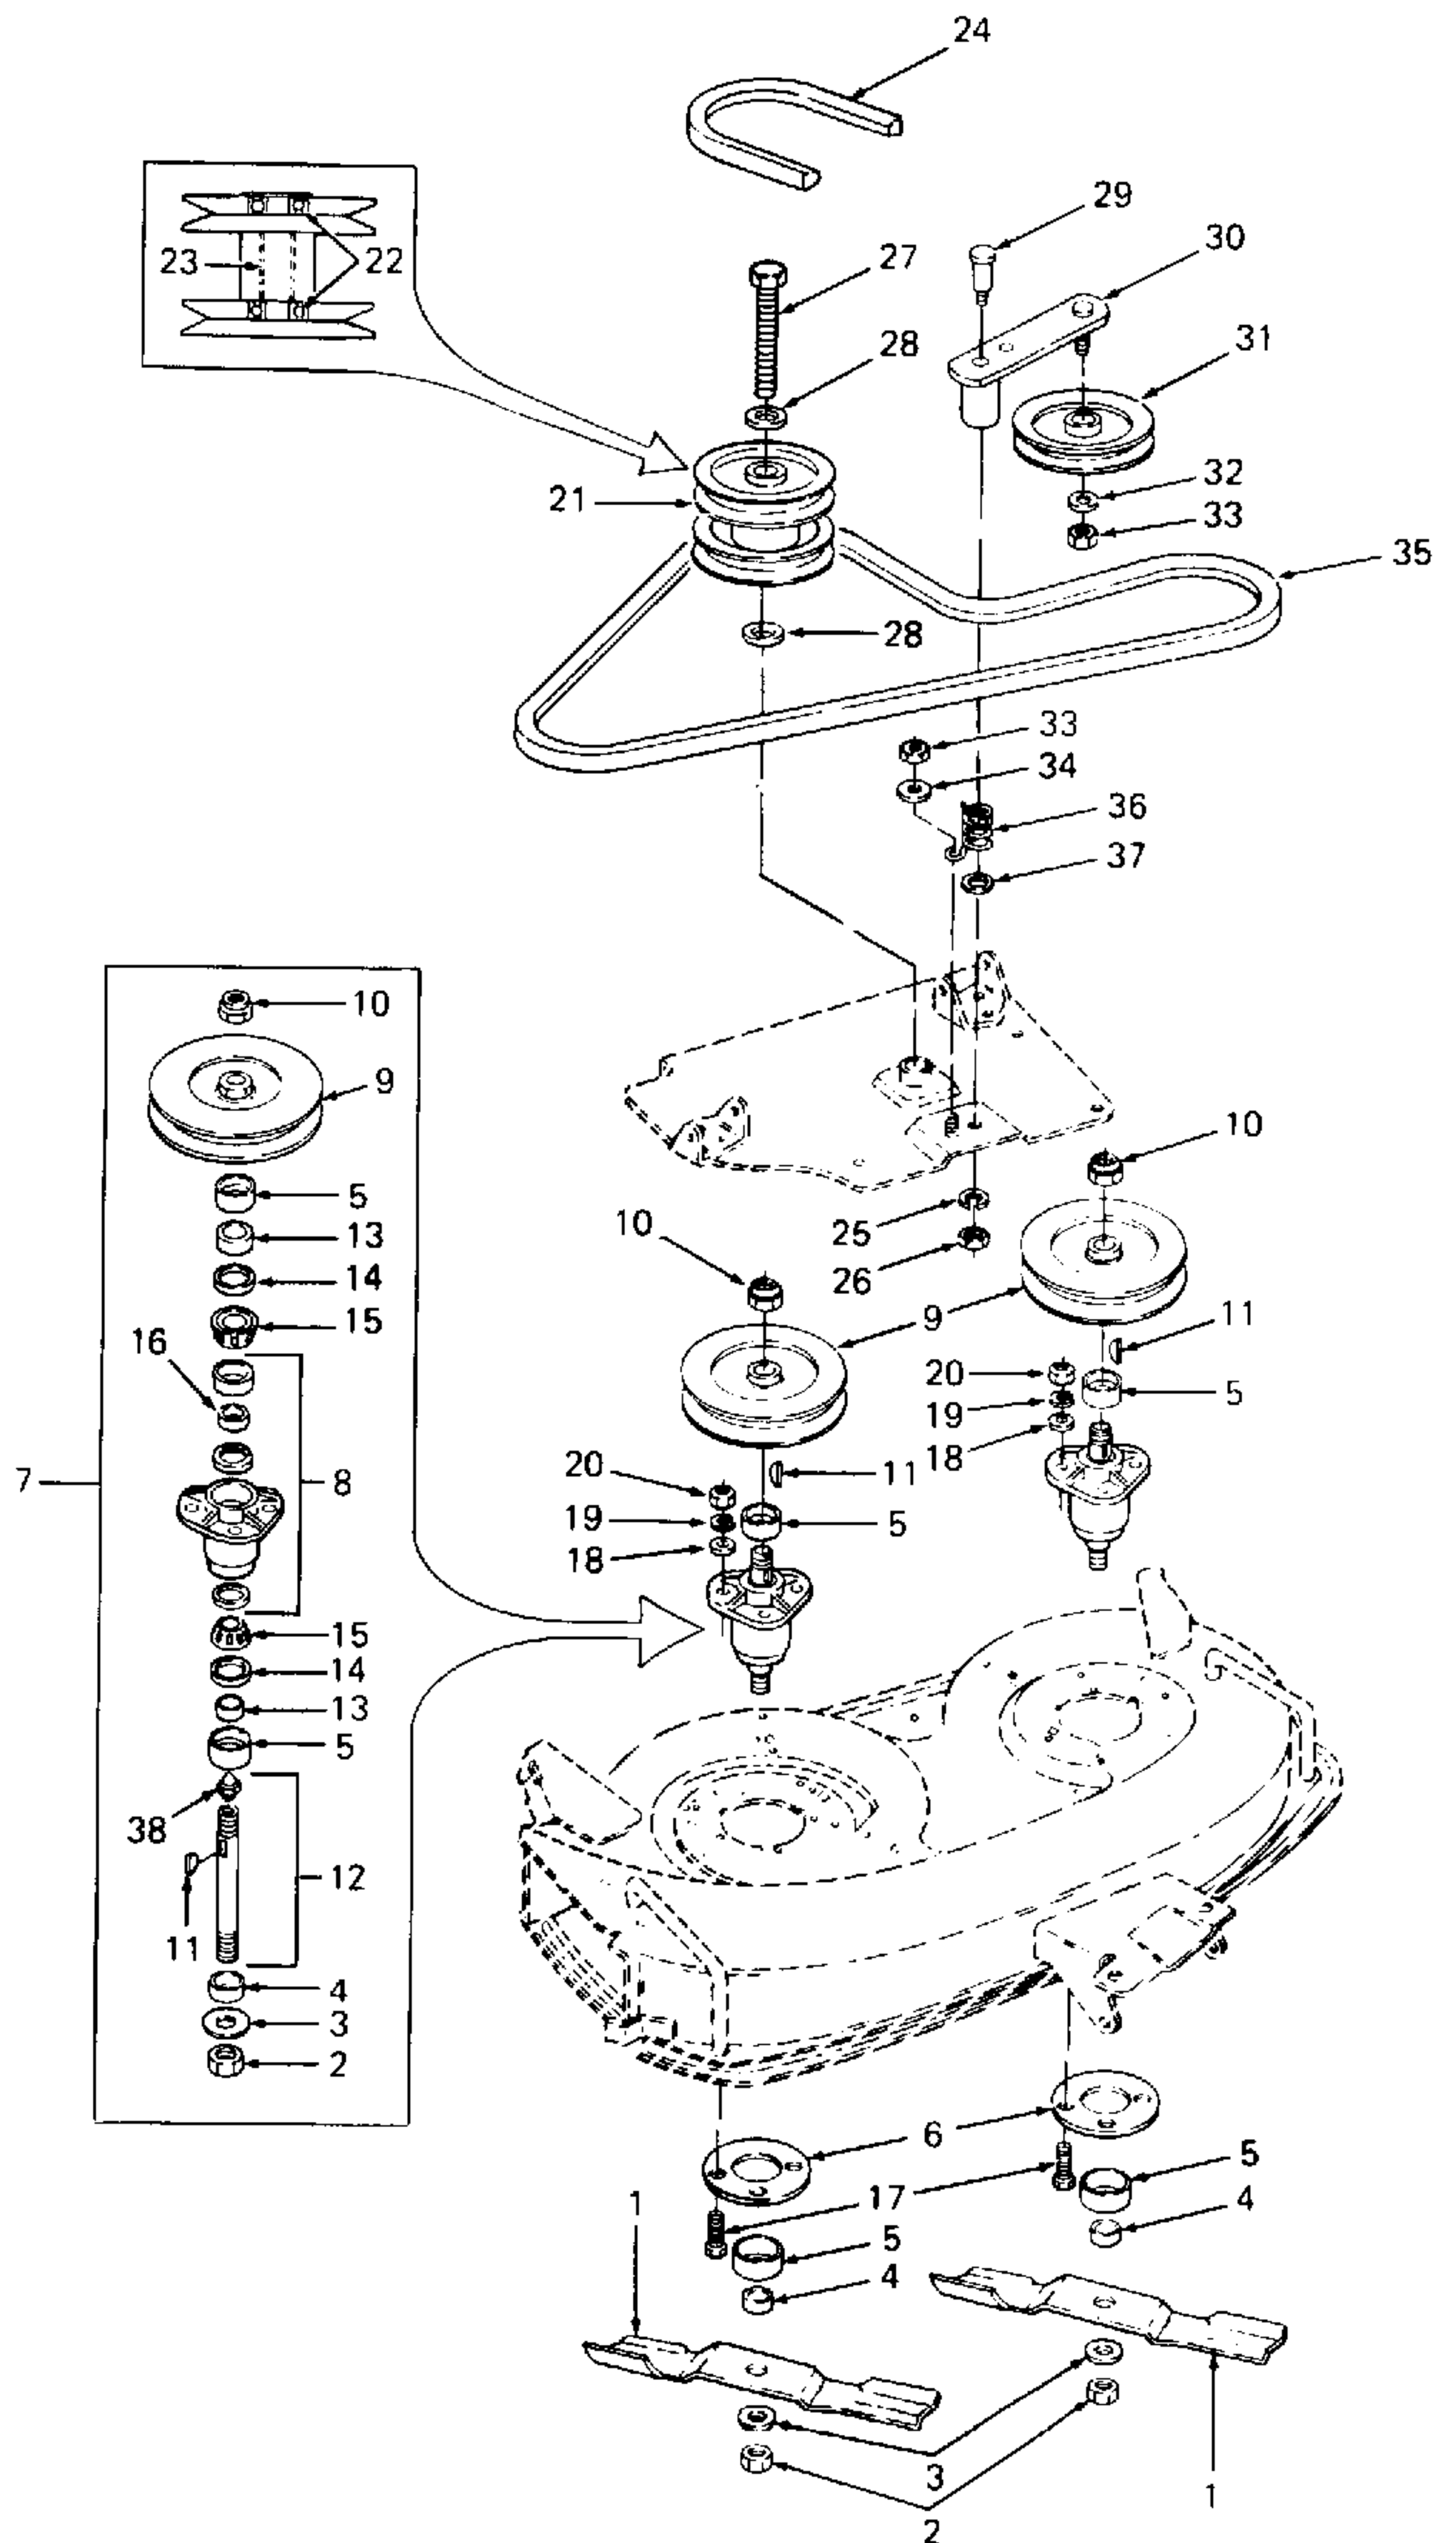

Figure 5-109. Spindles, Pulleys and Blades (Model 190-328).
5-69.3 **Disassembly.** Refer to Figure 5-108 and disassemble deck to level necessary to perform spindle repair and/or overhaul. Then refer to Figure 5-109 and disassemble spindle assemblies (7) as follows:
1. Install bearing spacer (16, Figure 5-109) and bearing cones (15).
2. Install oil seals (14), spacers (13) and spindle cups (5).
3. Install spindle (12) in assembly and place key (11) in keyway.
4. Install drive pulleys (9) and secure with hex jam nuts (10). Torque nuts (10) to 50 to 60 ft-lbs.
5. Install blade spacers (4), blades (1), flat washers (3) and hex nuts (2). Torque hex nuts to 90 to 100 ft-lbs.
7. Complete remaining reassembly using Figure 5-109 as a guide.